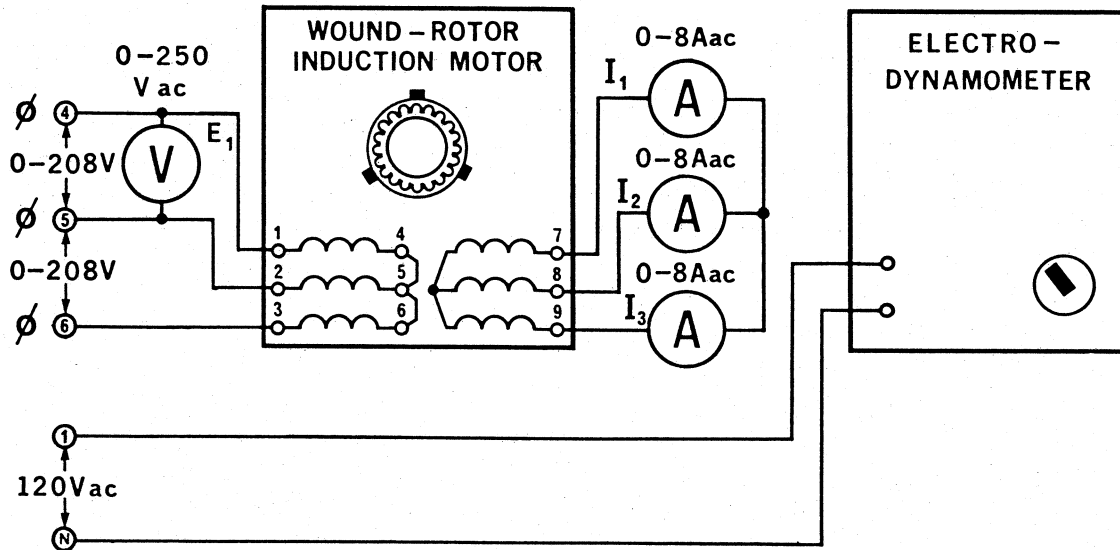

Figure 4-1.
1. Using your Three-Phase Wound-Rotor Induction Motor, Electrodynamicometer, Power Supply, AC Ammeter and AC Voltmeter, connect the circuit shown in Figure 4-1. Note that the three stator windings